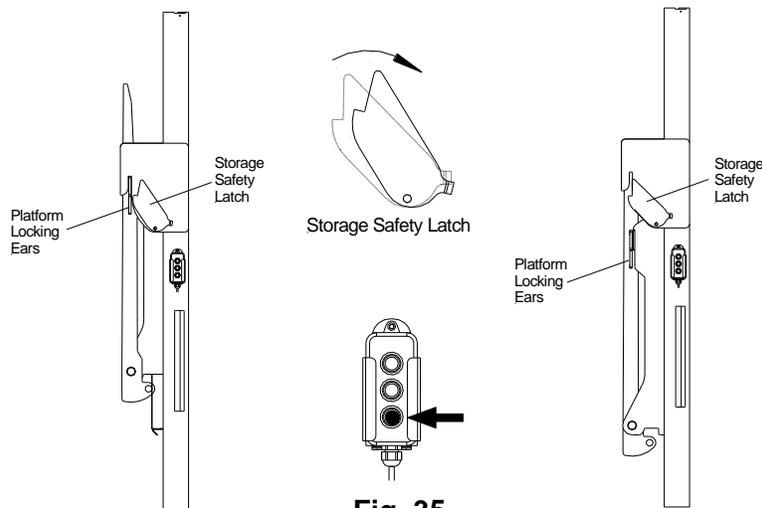

Fig. 35
2. Clear the platform sliding path by moving the storage safety latch manually. Hold the safety latch down manually with one hand and press the **Down** button on the control with the other hand until the platform locking ears clear the storage safety latch, **Fig. 35.** Release the safety latch back to its original place.